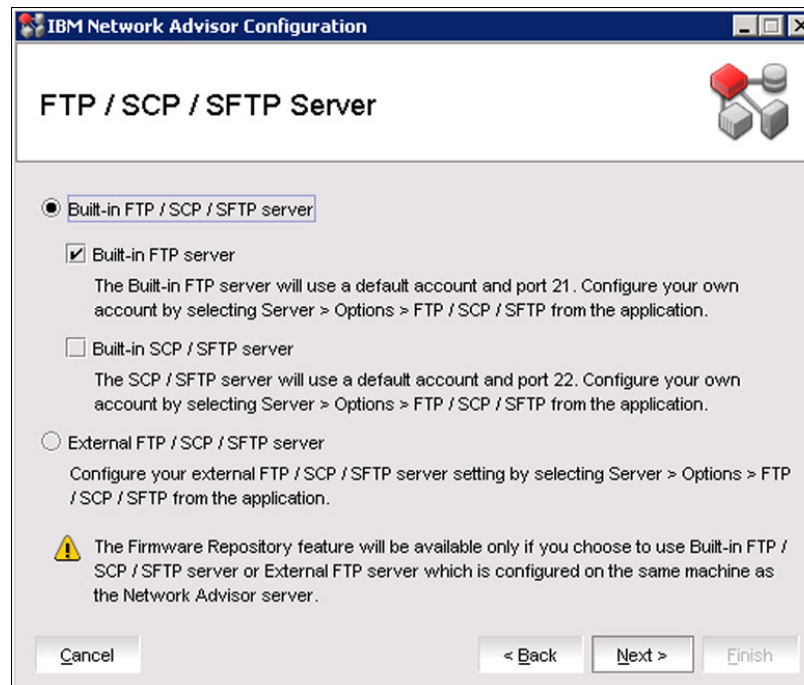

Figure 4-14 Setting up the servers and protocols for remote file transfers
12. The FTP / SCP / SFTP Server window opens and prompts you to configure the FTP server, as shown in Figure 4-14.